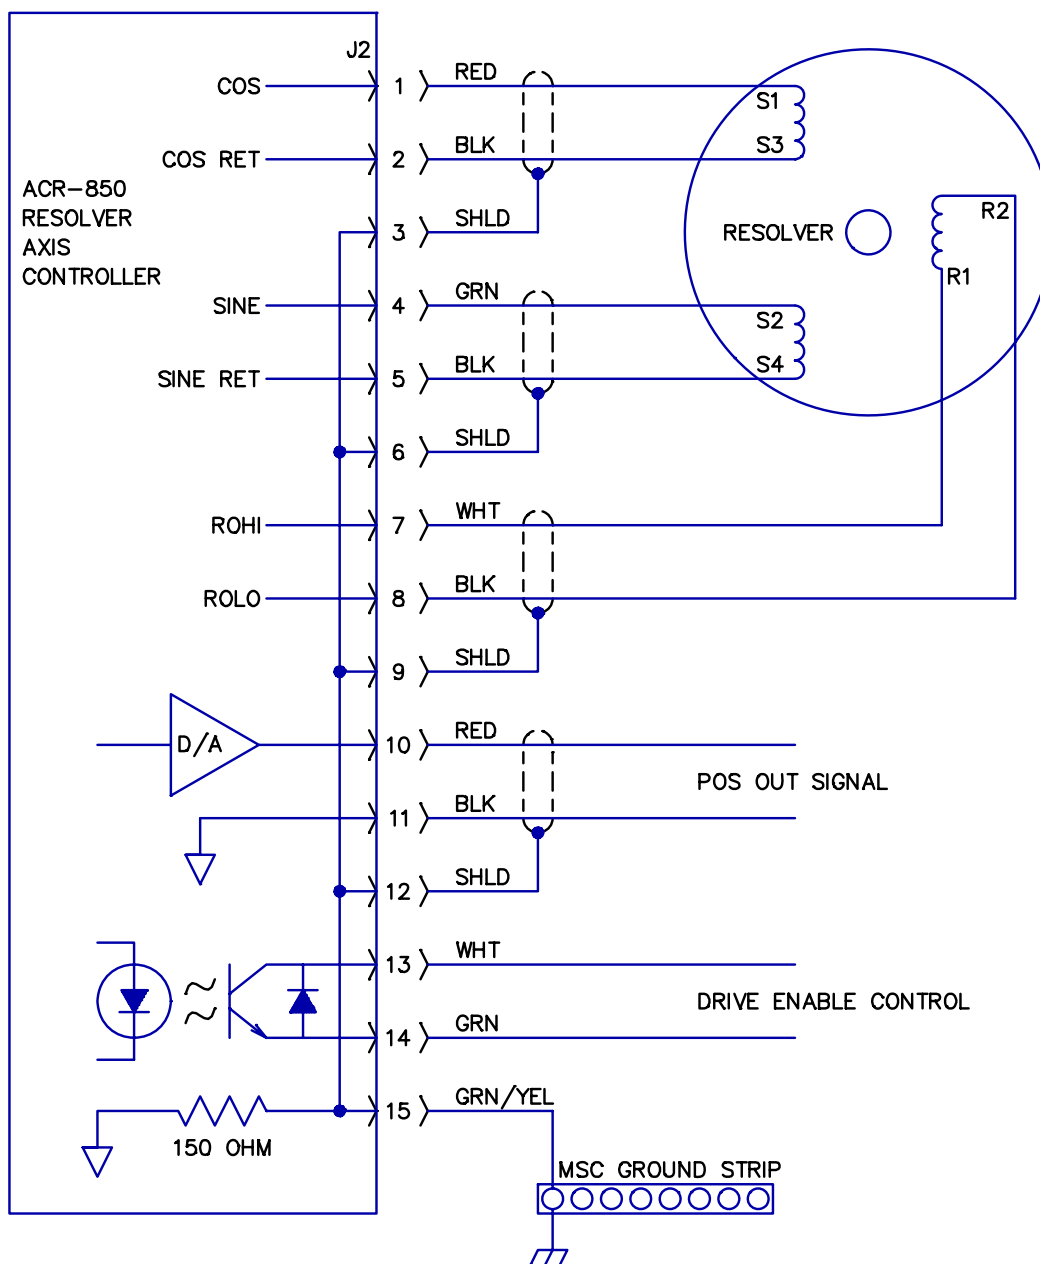

Figure 6-1 ACR-850 Controller, Electrical Connection
18. Measure P2-1 then P2-9 for greater than 10K Ohms to the MSC Ground Strip (Figure 6-1).
This section contains the electrical connections for the controller to resolver and controller to drive amplifier for both brush and brushless type motors (Figure 6-1).